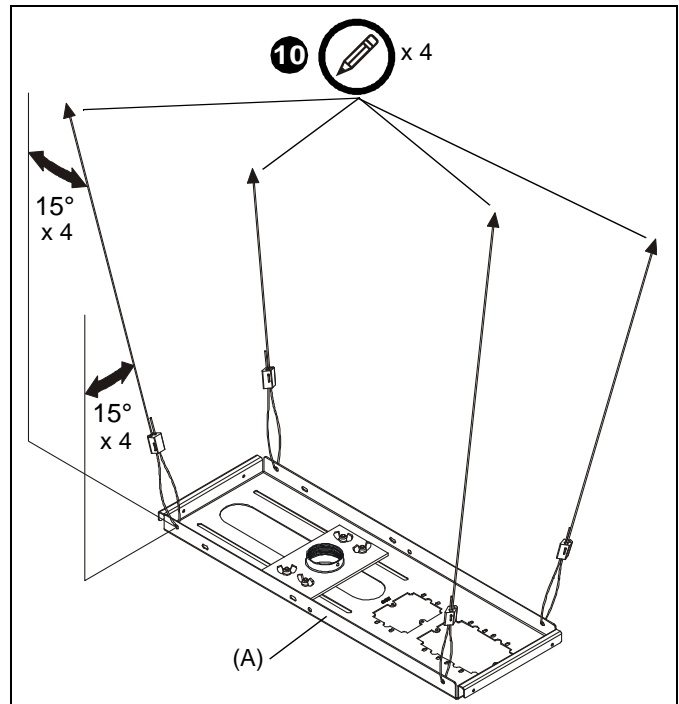

Figure 3
10. Examine ceiling structure (concrete, steel truss, or wood) above CMS440 assembly (A) to identify four support cable anchor locations. Each location should be approximately 15° outboard of support holes in CMS440 assembly (A) (See Figure 3). Mark locations with pencil.